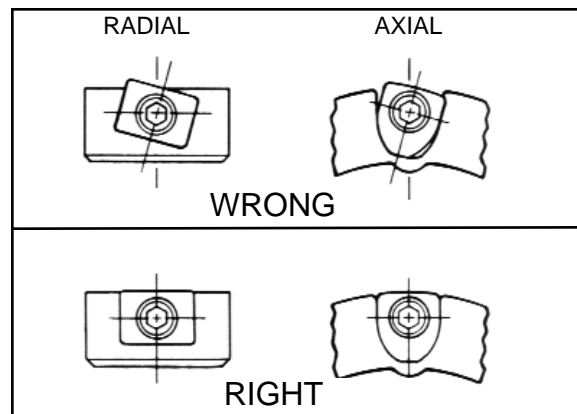

Figure 1. Correct and incorrect installation of inserts.
Step 2. Mount axial inserts on driven equipment. Inserts must be carefully aligned. See "Important Hints," #2 and Fig. 1. Place the cylindrical hub onto the driven shaft. If there is a spline locking feature, tighten the locking screws to specified torque T2 in Table 1.
- When tightening screws, make sure that **the aluminum inserts are not twisted**. See Figure 1. To help reduce twisting, place a drop of oil or grease under the screwhead. This eliminates friction between the screwhead and the inserts. If twisted, the radial inserts will not seat properly on the hub. For sizes 30HY and 50HY, position the axial inserts with the Hytrel® element and tighten screws. If the inserts are properly installed, the Hytrel® element will move easily back and forth axially.